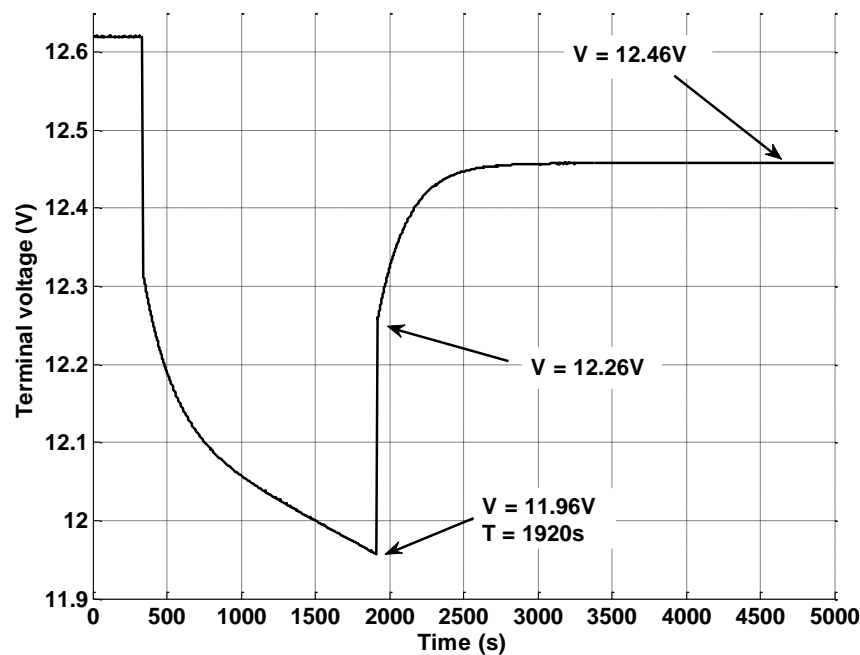

Figure 3 – Terminal voltage of a 12V lead-acid battery under pulsed-discharge.
- d. Considering the magnified view of the battery terminal voltage during a single 10A pulse discharge given in Figure 3, estimate the three remaining equivalent circuit parameters of the Randles' model (The self-discharge resistance may be neglected).